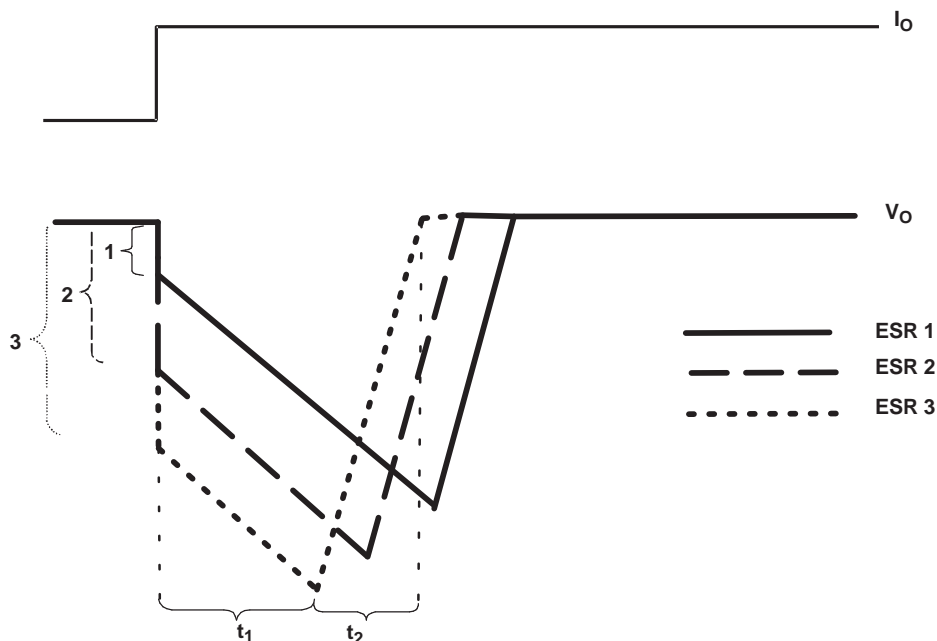

Figure 9. Correlation of Different ESRs and Their Influence to Regulation of V_O at a Load Step From Low-to-High Output Current
- The LDO is not able to supply the sudden current need due to its response time (t_1 in Figure 9). Therefore, capacitor C_O provides the current for the new load condition (dashed arrow). C_O now acts like a battery with an internal resistance, ESR. Depending on the current demand at the output, a voltage drop occurs at R_{ESR} . This voltage is shown as V_{ESR} in Figure 8.
- When C_O is conducting current to the load, initial voltage at the load is $V_O = V(C_O) - V_{ESR}$. Due to the discharge of C_O , the output voltage V_O drops continuously until the response time t_1 of the LDO is reached and the LDO resumes supplying the load. From this point, the output voltage starts rising again until it reaches the regulated voltage. This period is shown as t_2 in Figure 9.
Figure 9 also shows the impact of different ESRs on the output voltage. The left brackets show different levels of ESRs, where number 1 displays the lowest and number 3 displays the highest ESR.